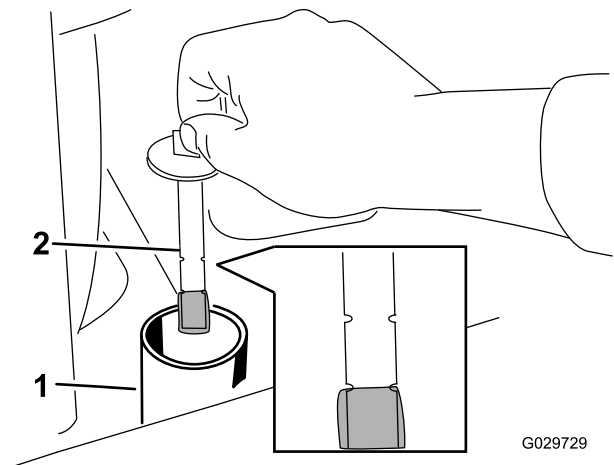

Figure 65
8. Remove the filler-neck cap and check the fluid level on the dipstick (Figure 65).